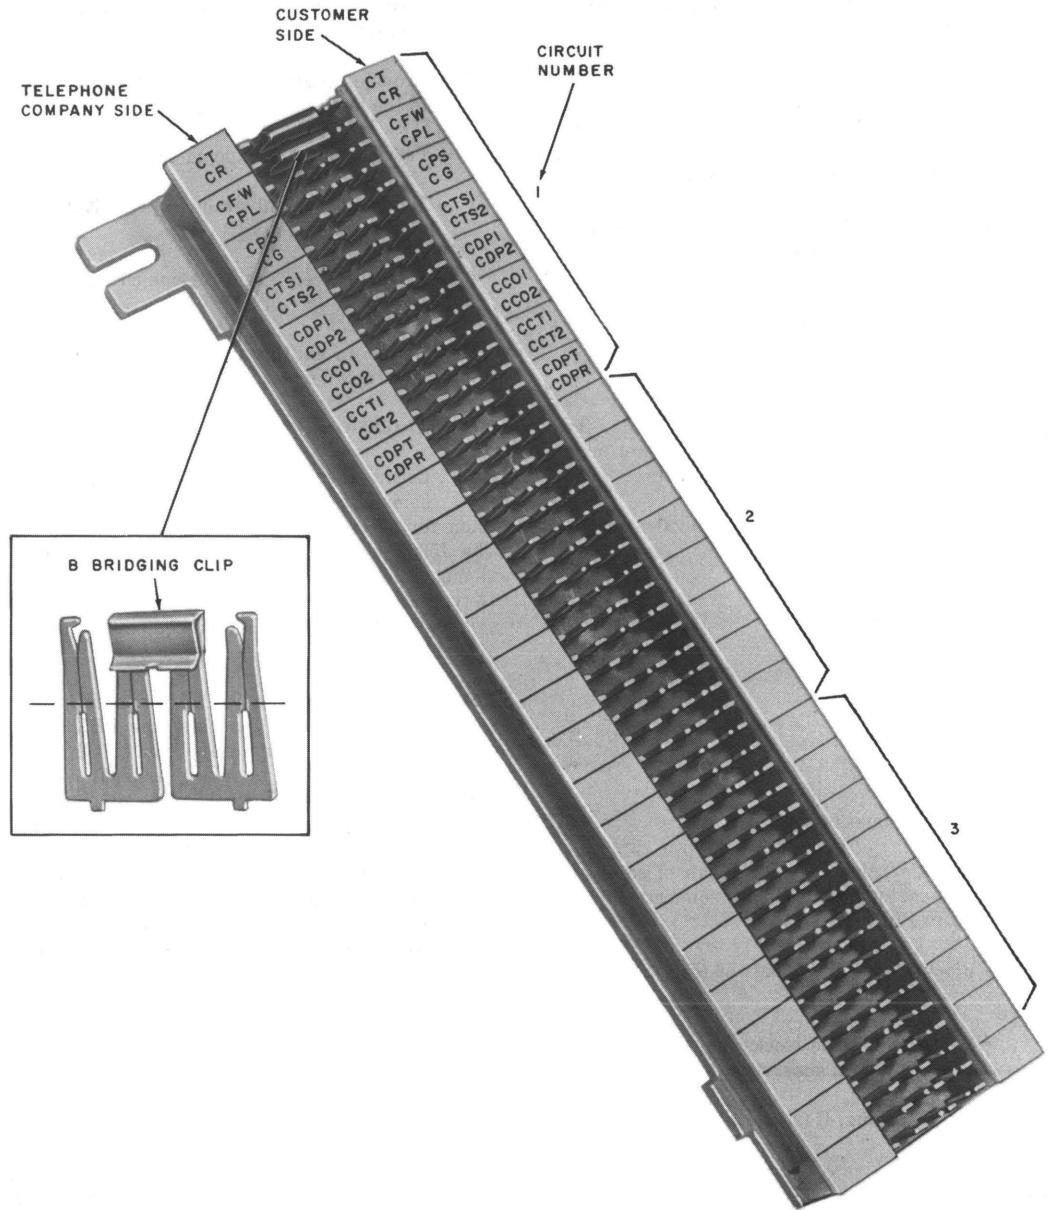

Fig. 3—66M1-50 Interface Connecting Block
- Block, Connecting, 66M1-50 (Fig. 3)
3.03 Mount the 66M1-50 interface connecting block within 25 feet of the J53050L IU. Use an A25B connector cable to extend the leads associated with the CPE to the interface block. Connect the connector cable to the plug on the J53050L IU and terminate the stub end on the interface block (on the telephone company side) according to the even count color code. Stencil circuit numbers and lead designations on interface block designation strip (see Fig. 3 and Table B).